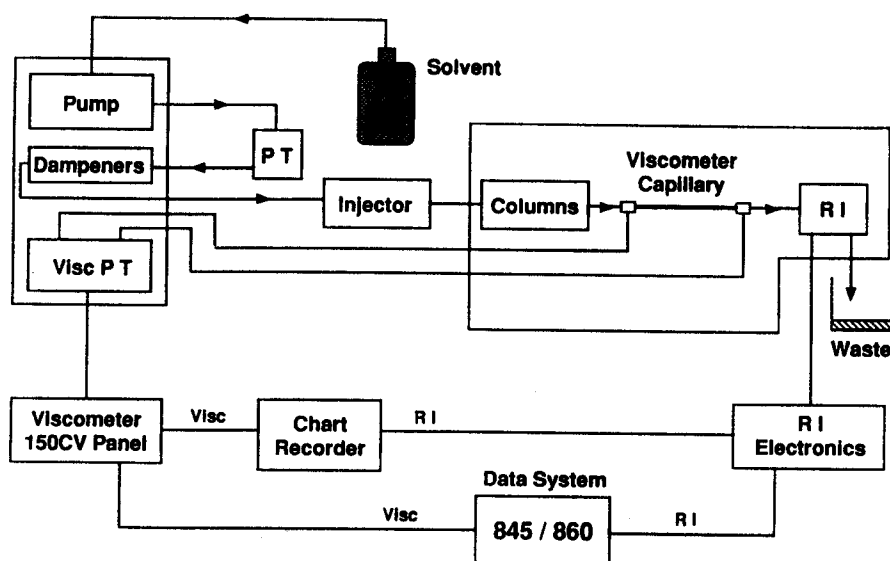

Figure 1. Block diagram of the major components within the 150CV System
The block diagram (Figure 1) of the 150CV system indicates the key elements that constitute the viscometer detector. The internal solvent reservoir (rarely used in the 150C) has been eliminated and solvent is supplied from an external source to the main pumping system (pump compartment) and the total system pressure transducer (PT) in standard fashion. In a regular 150C, the outlet of this pressure transducer is routed to the injector compartment. However, the viscometer detector is sensitive enough to detect the minor flow fluctuations due to the piston crossover in a properly operating dual-piston pump. In order to successfully use the detector as a viscometer, we have included a pulse dampening system, or baseline optimization box (BOB), to reduce the fluctuations by a factor of more than 100. Since there is not enough space to locate this dampening system in the injector compartment, the dampeners are located in the pump compartment on the drawer just in front of the main pumping system. The baseline optimization box consists of a series of eight dampening and eight restrictive elements in alternating order and it is enclosed in a dual-wall container so as to minimize the effects of any temperature variations. The flow from the system pressure transducer is routed back into the pump compartment, through the BOB, and then to the injector.